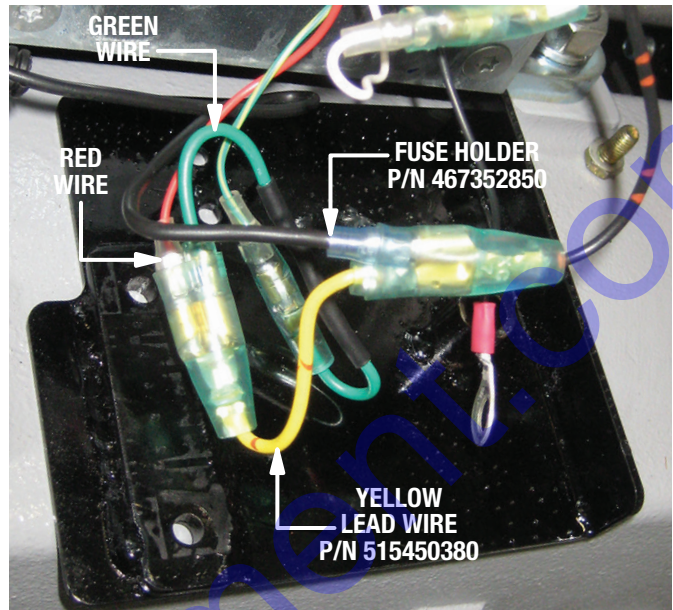

Figure 24. Wiring Connections (MVH508DZ)
8. Connect the disconnected red and green wires to the female, 2-pin side of the yellow lead wire (P/N 515450380). See Figure 24.
9. Connect the free, male end of the yellow lead wire (P/N 515450380) to either of the open, female ports on the connector from which the red and green wires were just removed. See Figure 24.
10. Connect the free, male end of the fuse holder (P/N 467352850) to the remaining available port on the connector from which the red and green wires were just removed. See Figure 24.